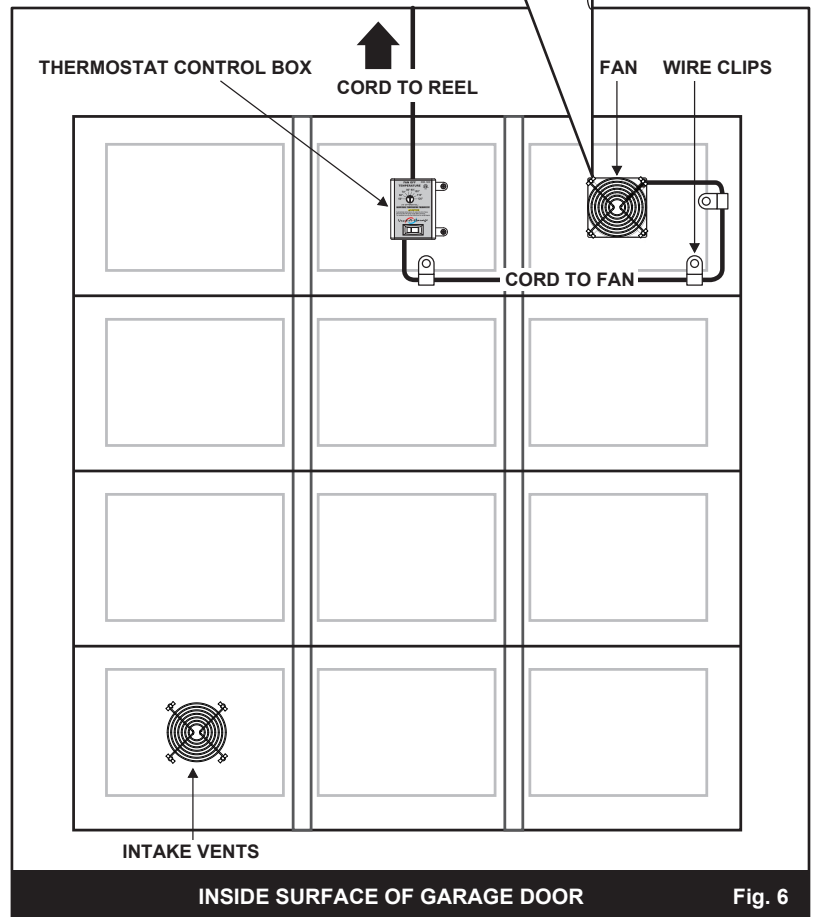

Fig. 6
MOUNTING THE THERMOSTAT CONTROL BOX (Reference Fig. 5 & Fig. 6)
CONNECTING THE FANS - (Reference Fig. 6)
2. Connect the female receptacle on the end of parallel cord to the fan plug located on the side of the fan frame. (See inset illustration Fig. 6)